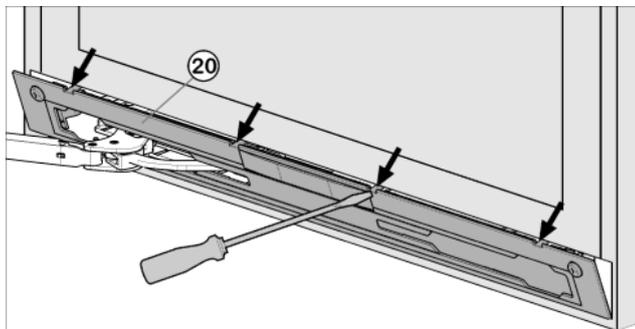

Fig. 9
- ▶ Disengage and remove the faceplate Fig. 9 (20) using a flat-blade screwdriver.